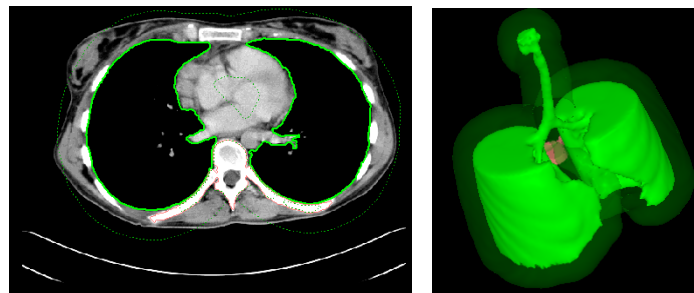

Figure 269 – Created ROI margin in 2D and 3D
6. Click the **Calculate** button. The created margin will be displayed as a dashed line (see Figure 269).